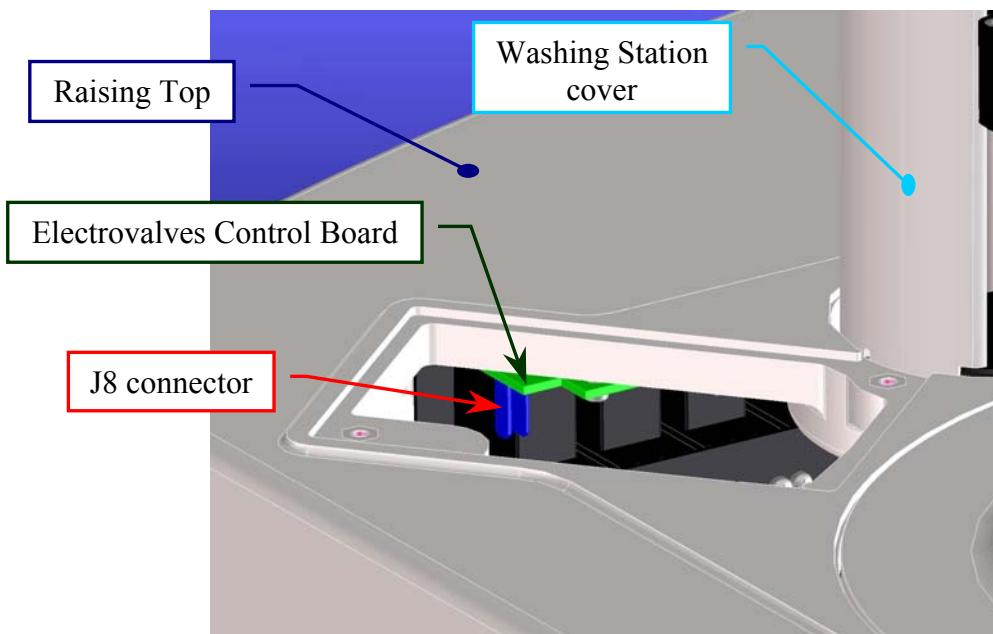

Fig. 132 – Rectangular opening of the Raising Top
2. Take the Service Probe of the Kit having P/N: 55-01204-00 and push it through the rectangular opening of the Raising Top (**Fig. 132**).
3. Plug the connector of the Service Probe in the J8 connector of the Electrovalves Control Board (compare the **Fig. 132** and the scheme SC-30-02194-00).
- c. plug the 10 KΩ resistor [Kit having P/N: 55-01204-00] in the J8 connector of the Electrovalves Control Board (**Fig. 132**);
- f. plug the 5.76 KΩ resistor [Kit having P/N: 55-01204-00] in the J8 connector of the Electrovalves Control Board (**Fig. 132**);
- k. plug the connector of the Service Probe in the J8 connector of the Electrovalves Control Board (**Fig. 132**).